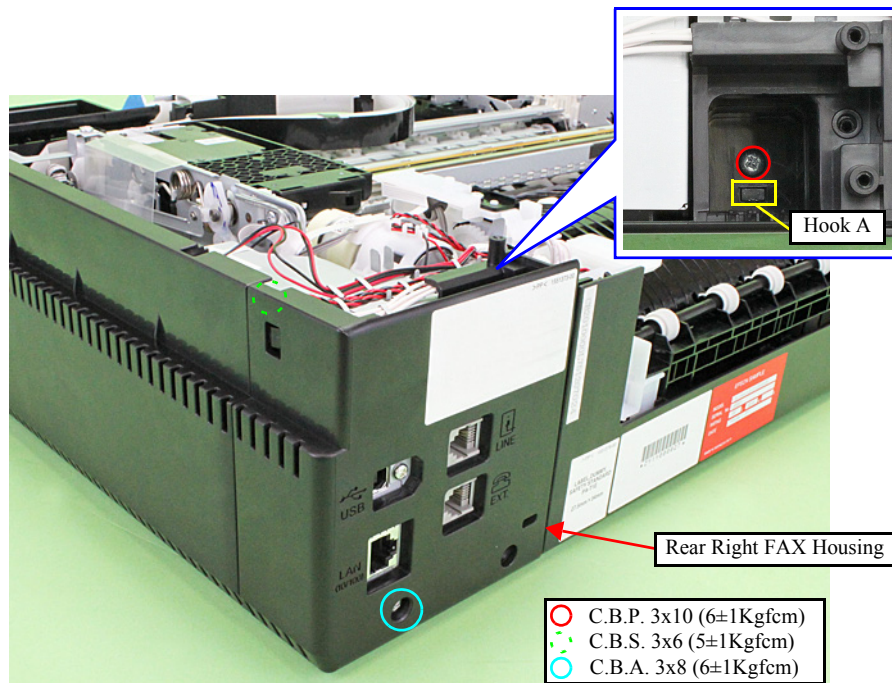
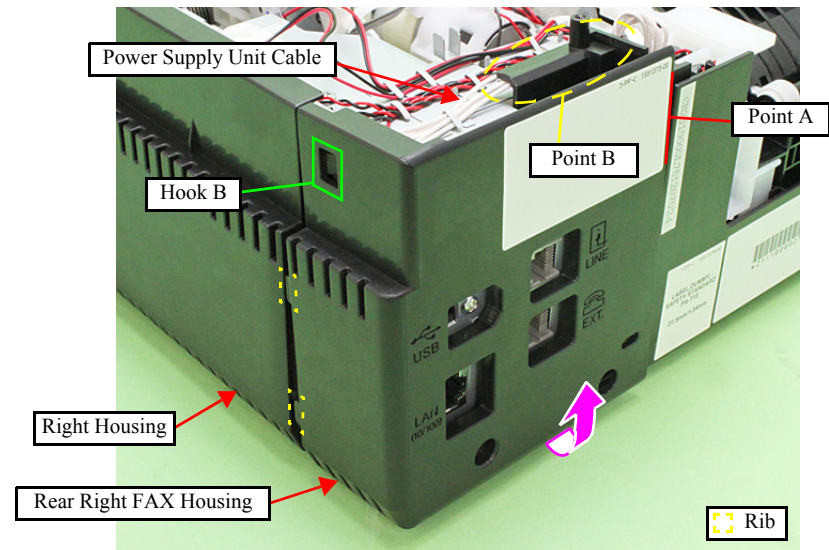

Figure 9-17. Removing the Rear Right FAX Housing (1)
Figure 9-18. Removing the Rear Right FAX Housing (2)
2. Release the hook A in Fig. 9-17, and also release the ribs (x2) on the right side and hook B in Fig. 9-18, then remove the Rear Right FAX Housing by lifting it in the direction of the arrow.
- When installing the Rear Right FAX Housing, insert the ribs (x2) of the Rear Right FAX Housing to the inside of the Right Housing. (See Fig. 9-18.)
- When installing the Rear Right FAX Housing, align the point A of the Rear Right FAX Housing with the inside of the Base Frame. (See Fig. 9-18.)
- When installing the Rear Right FAX Housing, be careful not to let the Power Supply Unit Cable get caught by the point B of the Rear Right FAX Housing. (See Fig. 9-18.)